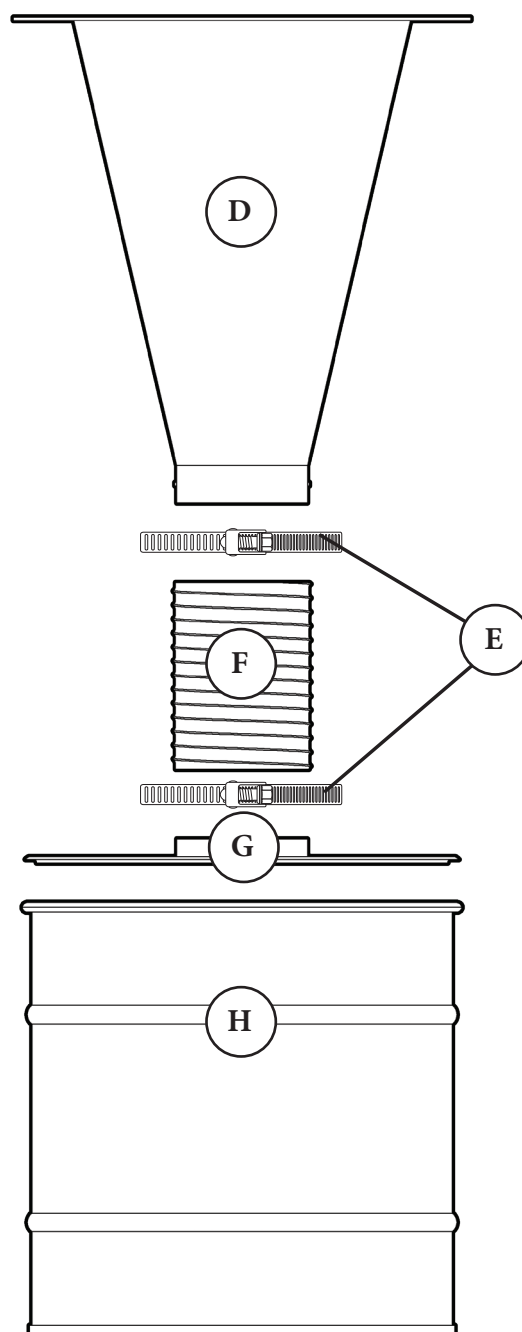

FIG. 15
- 16** To ground the filter, attach the ring terminal on the braided ground wire from the Motor Assembly (A) to a bolt on the filter plate, under the nut, then attach the alligator clip to the filter's cage [FIG. 15].